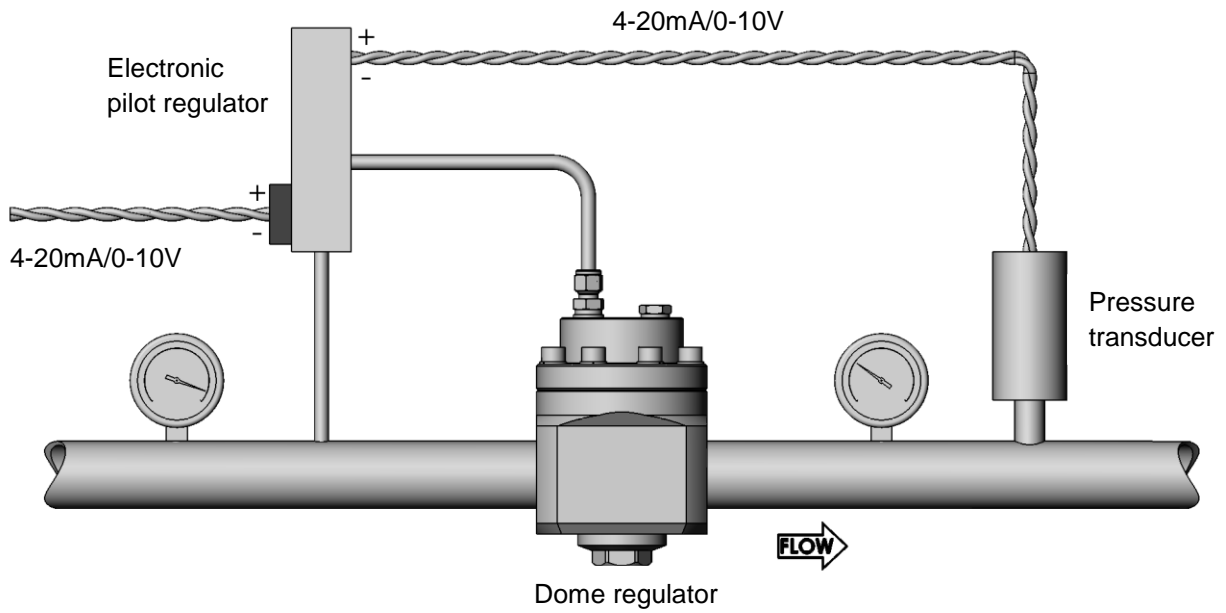

Fig 4
- **Electronic control.** In this setup an electronic pilot regulator, fed from the system pressure, is used in conjunction with a pressure transducer to directly control the dome pressure (Fig 4). The outlet pressure of the main regulator will be limited by the outlet pressure of the electronic regulator. This setup is not suitable for liquid applications.